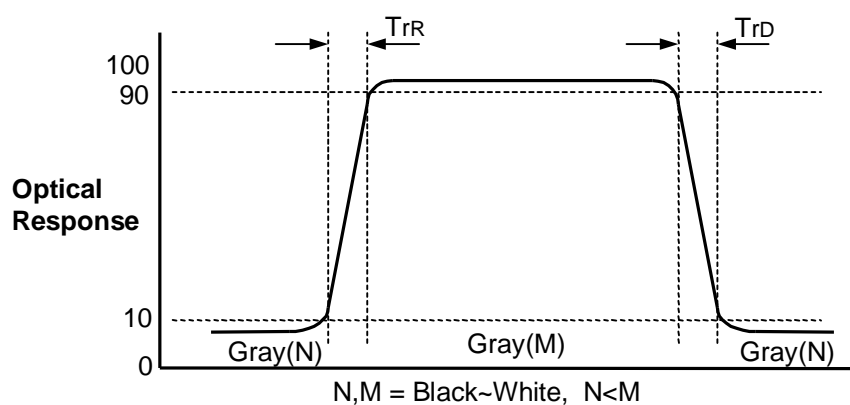

FIG. 3 Response Time
4. Response time is the time required for the display to transition from G(N) to G(M) (Rise Time, Tr_R) and from G(M) to G(N) (Decay Time, Tr_D). For additional information see the FIG. 3. (N<M)